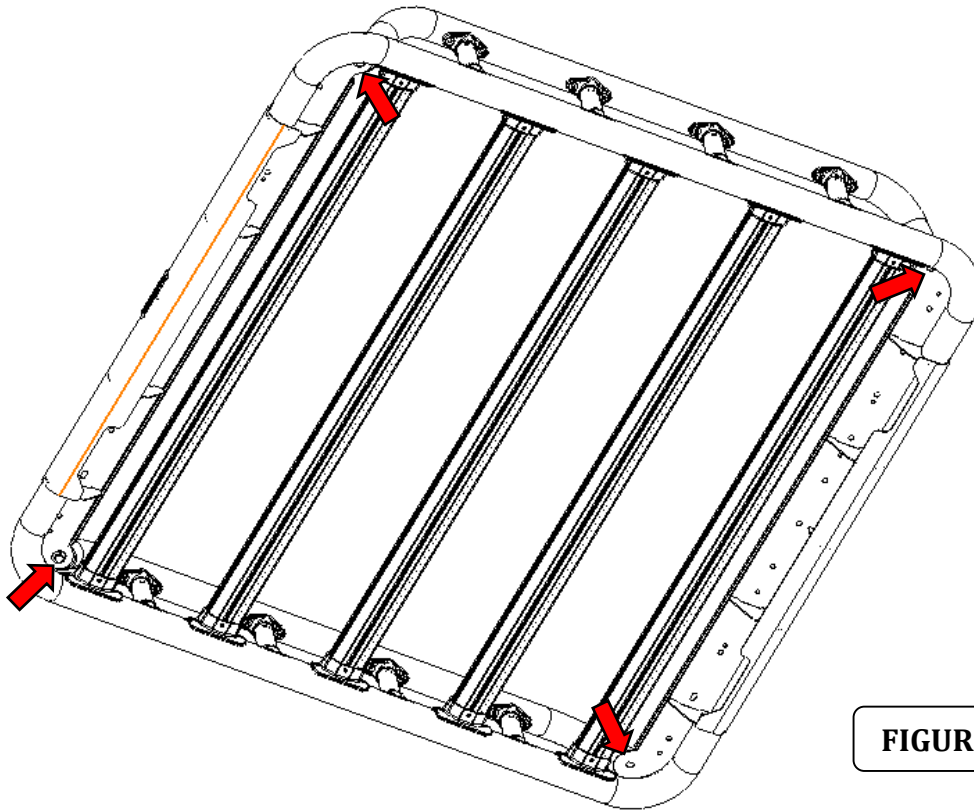

FIGURE 2
Step-3 Place the right side top rail on top of the stand-offs, align the rivet-nut in the top rail tube with the hole in the front end plate and secure the top rail to the front end plate using (1) 3/8" x 1 1/2" hex bolt , (1) 3/8" lock washer and (1) 3/8" flat washer, (fig 2 &2a). Do not tighten the bolt. Repeat for the left side top rail.